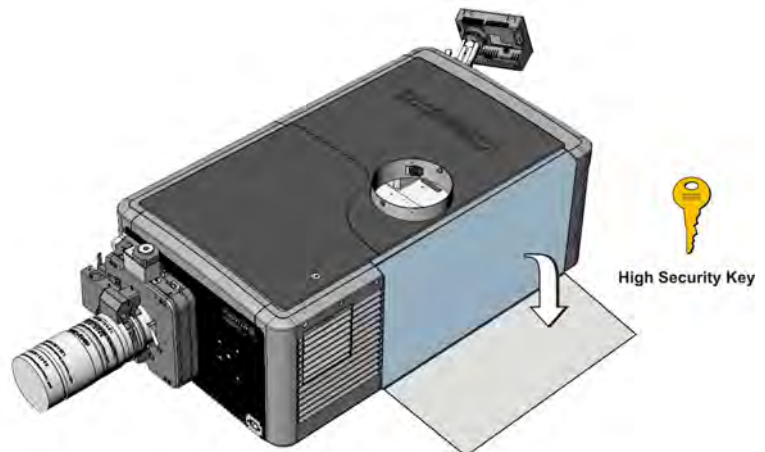

Figure 5-7 Open Lamp Door
1. Unlock and open the lamp door. **(Figure 5-7)**